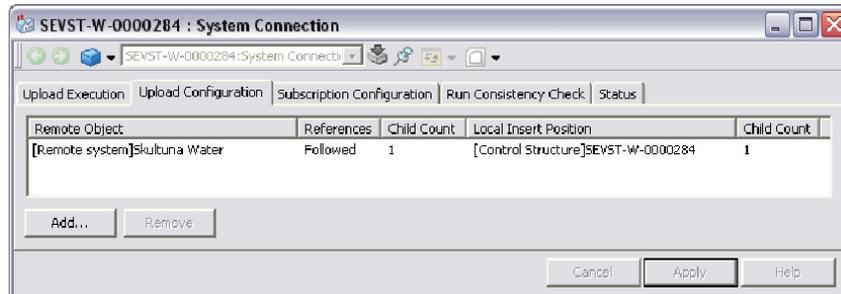

Figure 67. Upload Configuration Tab After Upload
- d. The Include Children and Follow References configuration is shown in the **Upload Configuration** tab after an upload (Figure 67).
6. The **Upload Configuration** tab (Figure 67) shows how the upload is configured. The References field will show `Followed` if the **Follow References** check box was selected in the Upload Configuration dialog box (Figure 66). The Child Count will show the number of children uploaded if the **Include Children** check box was selected in the Upload Configuration dialog box. If it was cleared, this field shows a dash.